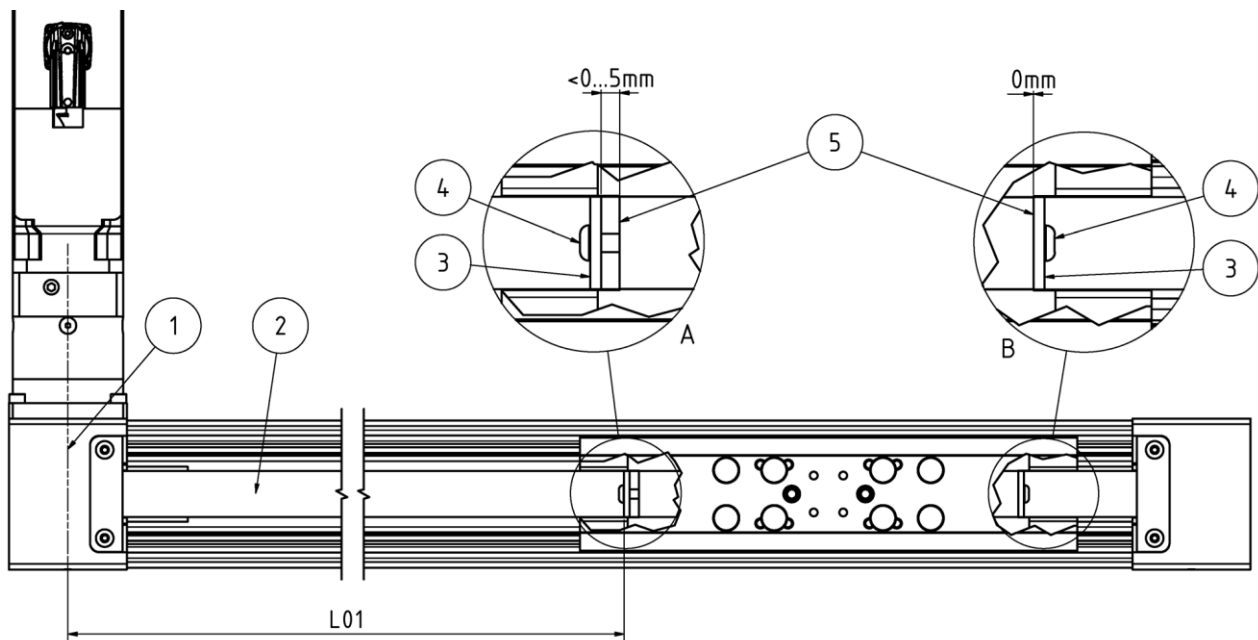

Figure 14: Check and adjust toothed belt tension
- ◆ Measure the free belt length (Figure 14, L01) between the middle level of the pulley (Figure 14, Pos. 1) and the belt tensioning element (Figure 14, Pos 3).
- ◆ Enter the measure belt length (Figure 14, L01) as well as the belt weight (Table 14) in the belt tension gauge.
- ◆ Depending on toothed belt tensions, carefully screw-in resp. screw-out the tension screw in the carriage (Figure 14, Pos 4).
One of the clamping screws is turned to the stop at the factory (Figure 14, detail view B). This is indicated by the fact that this clamping screw is screwed in deeper and cannot be screwed in any further. To increase the toothed belt tension, the other tensioning screw (Figure 14, detail view A) must be screwed in. To reduce toothed belt tension, both tensioning screws can be released. The belt tensioning elements (Figure 14, Pos. 3) must not protrude more than 5 mm on both sides, otherwise the steel belt deflections cannot be fitted.
- ◆ If both tensioning screws are screwed in at the stop (as shown in Figure 14, detail view B) and the required toothed belt tension has not yet been achieved, the toothed belt (Figure 14, Pos 2) must be shortened by one tooth.
- ◆ Loosen one of the tension screws completely (see Figure 14, Pos. 4).
- ◆ Carefully pull the toothed belt with the belt tensioning element (Figure 14, Pos. 3) out of the carriage (depending on the design, the belt tensioning element is one-piece or two-piece).
- ◆ Insert again the toothed belt (Figure 14, Pos. 2) with the belt tensioning element (Figure 14, Pos. 3) into the carriage.
- ◆ Screw-in tensioning screw (Figure 14, Pos. 4) until the toothed belt tightens.